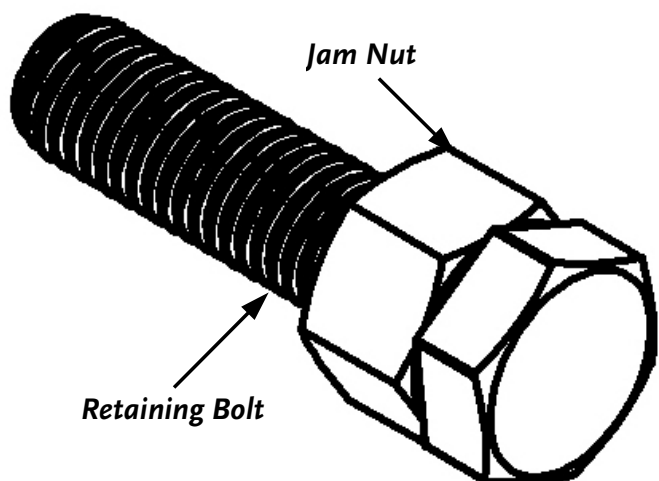

Figure 14
10. Back the Jam Nuts on the four Retaining Bolts (**Figure 14**) all the way to the head of the Bolts.
- Note:** You will need to back all Jam Nuts off, to the head of the Retaining Bolts for all hardware shipped in the Hardware kit prior to installation (**Figure 14**). Be sure to tighten the Bolt first and then secure it by tightening the Jam Nut.